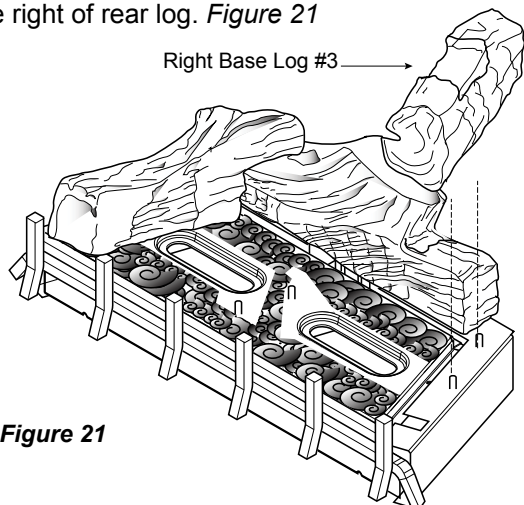

**Figure 21**
6. Align holes in bottom of right base log #3 with two (2) to the right of rear log. *Figure 21*